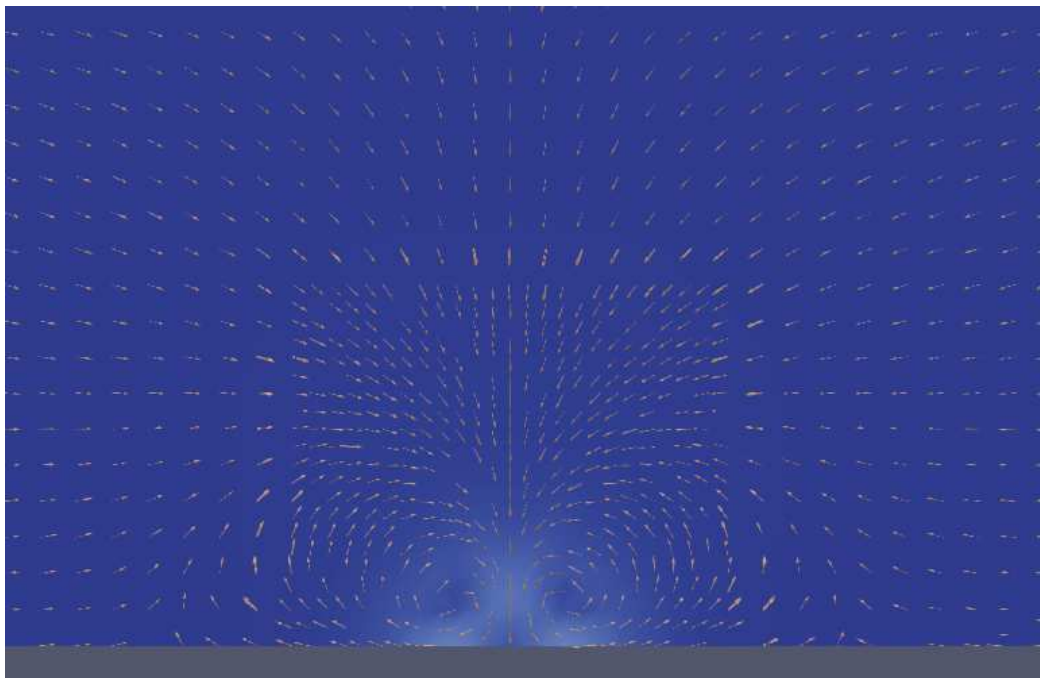

Figure 2.6: Finished 'Glyph' plot.
- 6) The 'ExtractBlock1' created for reference purposes can be hidden and the view can be adjusted to obtain a plot similar to figure 2.6.